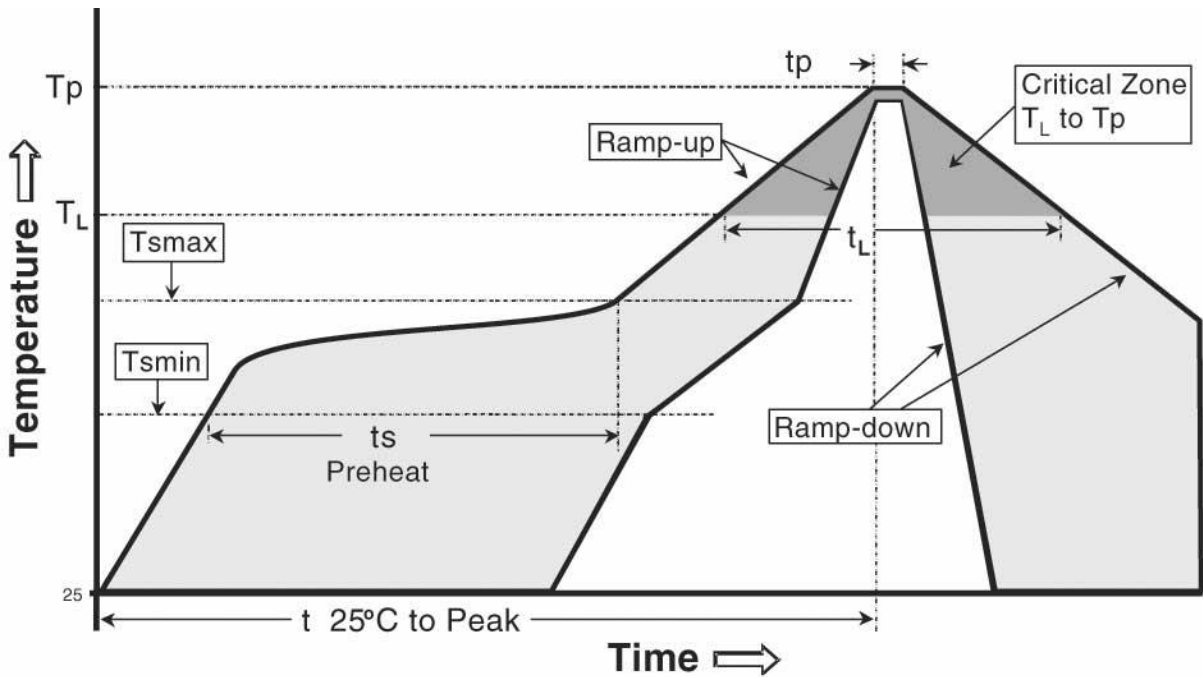

Figure 8 – Temperature profile.
2. Perform a reflow process according to the temperature profile detailed in Table 3, Figure 8 on page 12.